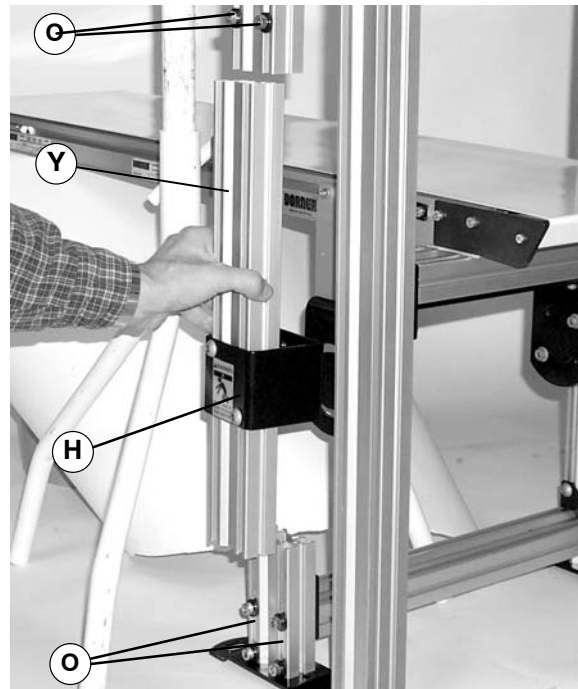

Figure 16
- Slide four tube joining bar assemblies (O of Figure 16) out of the way. Remove stand section (Y) and leg support bracket (H) from multi tier stand.